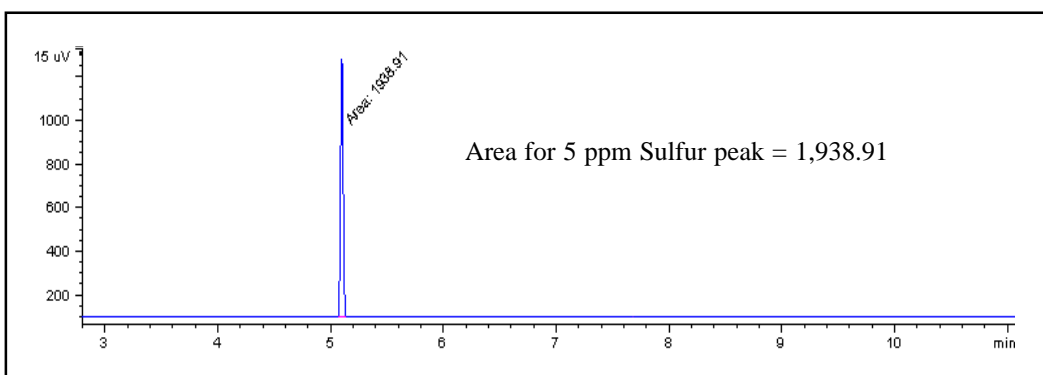

Figure 2. Integrated Area for a Single Sulfur Peak at 5 ppm
2. Using the single compound, prepare calibration standards at several concentrations spanning the range of interest and analyze them under the same conditions that will be used for the samples. Acquire data in the linear mode with the square root function turned “ON”. (See Figure 2.)